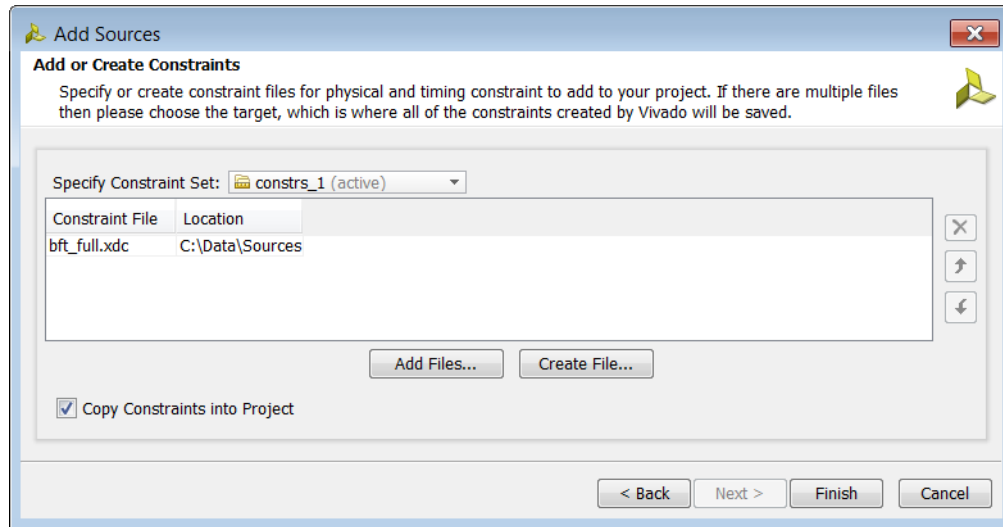

Figure 3-6: Add Sources Wizard—Add or Create Constraints Page
3. In the Add or Create Constraints page (Figure 3-6), set the following options, and click **Finish**.